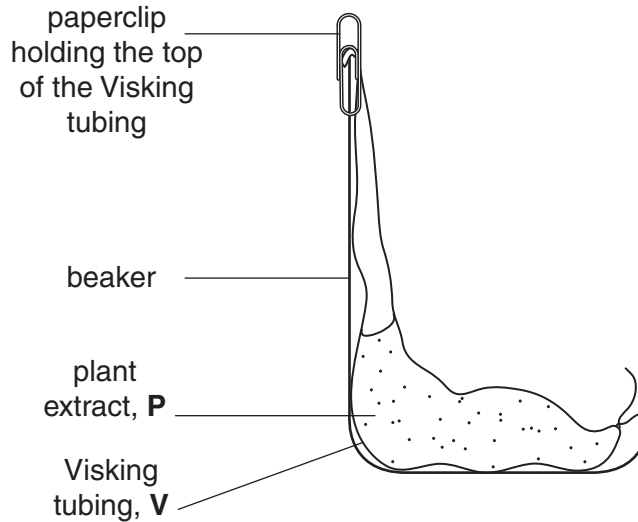

Fig. 1.3
- set up Visking tubing containing **P** as in Fig. 1.3
(iii) Draw **on Fig. 1.3** the level of the water
17. Put the Visking tubing into an empty beaker as shown in Fig. 1.3.